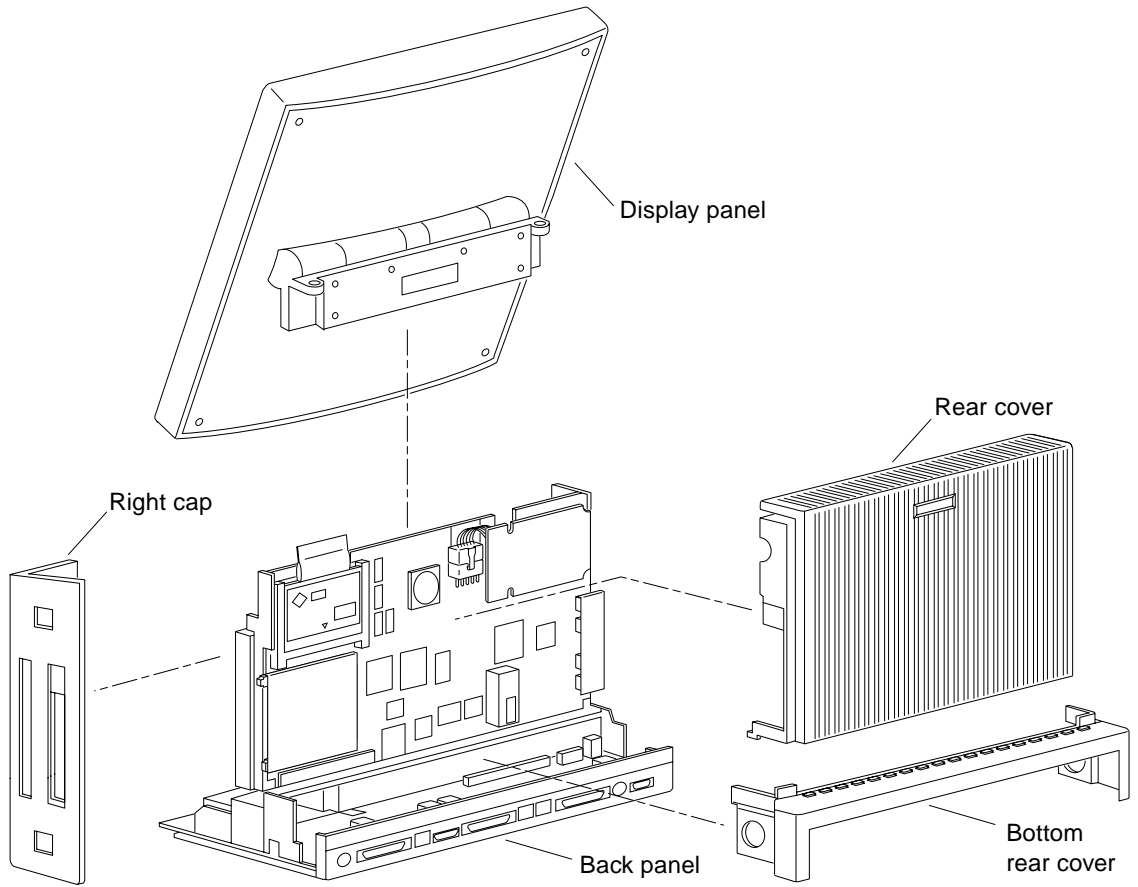

FIGURE 1-2 Rear View—Exploded
- FIGURE 1-2 shows the rear view